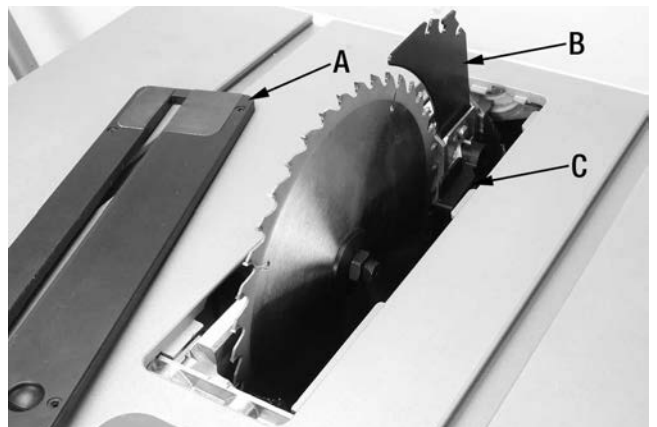

FIGURE 9
Remove the table insert (A) Fig.9 from the table top by pulling it upwards. Turn the blade height lock knob (A) Fig.8 counterclockwise to unlock. Turn the elevation handwheel (B) Fig.8 counterclockwise and raise the blade to its highest position above the table.
The riving knife (B) Fig.9 consists of a metal piece, slightly thinner than the blade, that helps to keep the blade kerf open to prevent kickback. This saw is shipped with the riving knife in the non-through cutting or “down” position, as shown in illustration below. The riving knife must be positioned in the through cutting or “up” position for all other operations.
1. Unlock the riving knife lock lever (C) Fig.9 by pivoting it upwards (vertical position).
2. Push the riving knife (B) towards the lock lever to disengage it from its positioning pins/slots.
4. Lock the lock lever (C) by pivoting it downwards (horizontal position). Once secured, make sure the riving knife is perfectly aligned with the center of the blade, if not, it is most likely due to misalignment of the positioning pins, readjust until alignment is obtained.